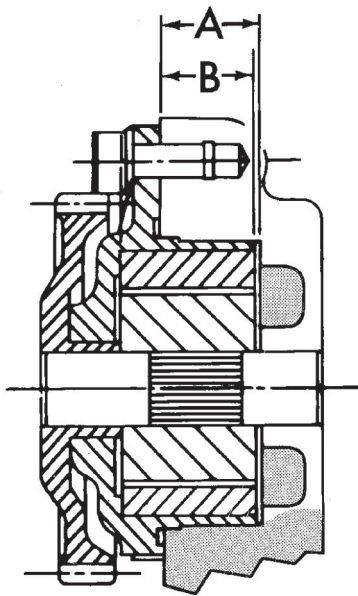

Fig. 58 Oil Pump Bore Depth
(29) Before installing oil pump check pump bore depth in block (A) and pump body height (B) (Fig. 58). Difference between A and B should be 0.020-0.082 mm (.0007 to .0032 in.).